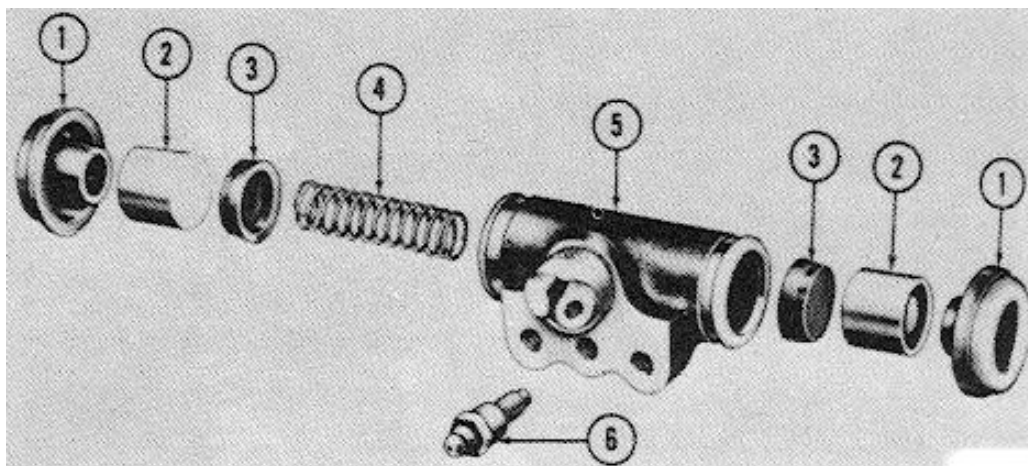

Figure 2-83. Wheel brake cylinder
(3) Wheel cylinders. (Fig 2-83)